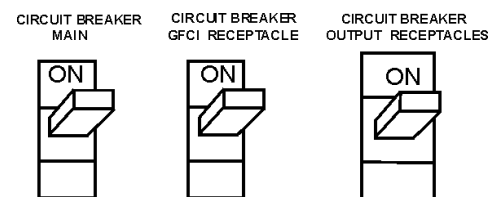

Figure 63. Main and GFCI Circuit Breakers
19. Turn the MAIN, GFCI and LOAD circuit breakers to their ON position (Figure 63).